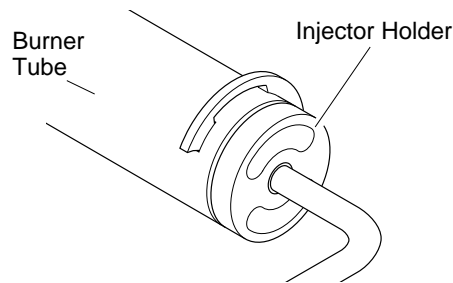

Figure 54 - Injector Holder On Outlet Burner Tube
2. Inspect burner, pilot, and primary air inlet holes on injector holder for dust and dirt (see Figure 54).